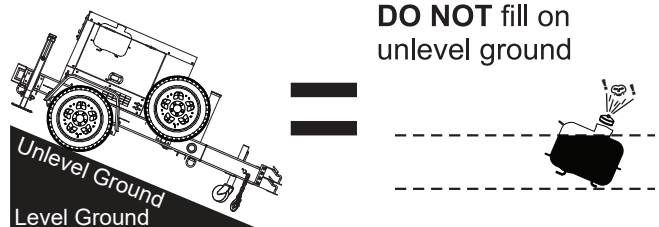

Figure 17. Only Fill On Level Ground
1. **Level the tank** — Make sure the fuel tank is level with the ground. Failure to do so will cause fuel to spill from the tank before reaching full capacity (Figure 17).